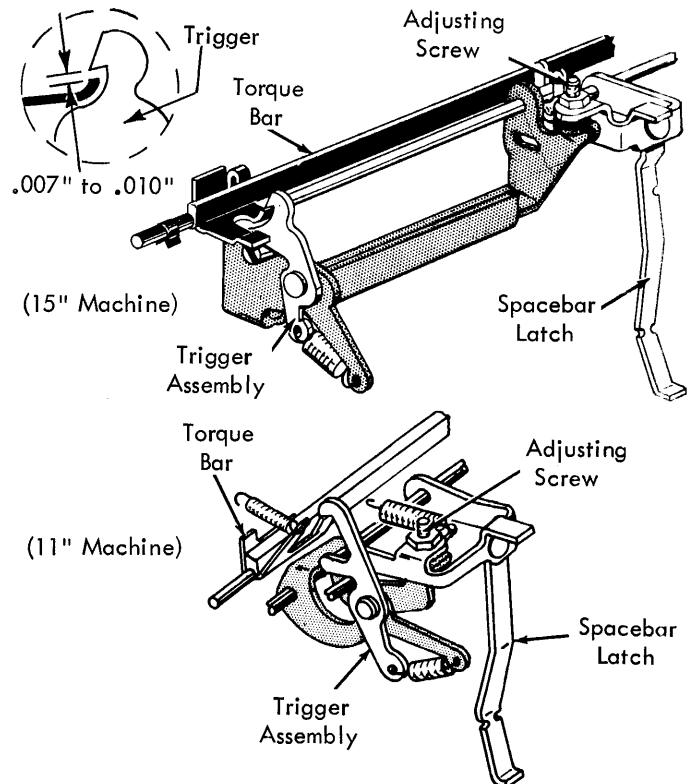

FIGURE 185A. Spacebar Latch Lever Screw
2. Spacebar Latch Lever Screw - Adjust the screw so that $.007''$ to $.010''$ clearance exists between the escapement trigger and the escapement torque bar (Fig. 185A). Disconnect the escapement trip link before making this adjustment.